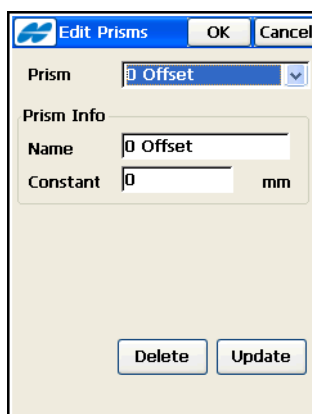

Figure 3-65. Edit Prisms
- **List**  **Button** – opens the *Edit Prisms* screen to add a new prism or change a prism existing in the list (Figure 3-65 on page 3-66).
The *Edit Prisms* screen (Figure 3-65) allows the user to change the prism constant selected in the list.